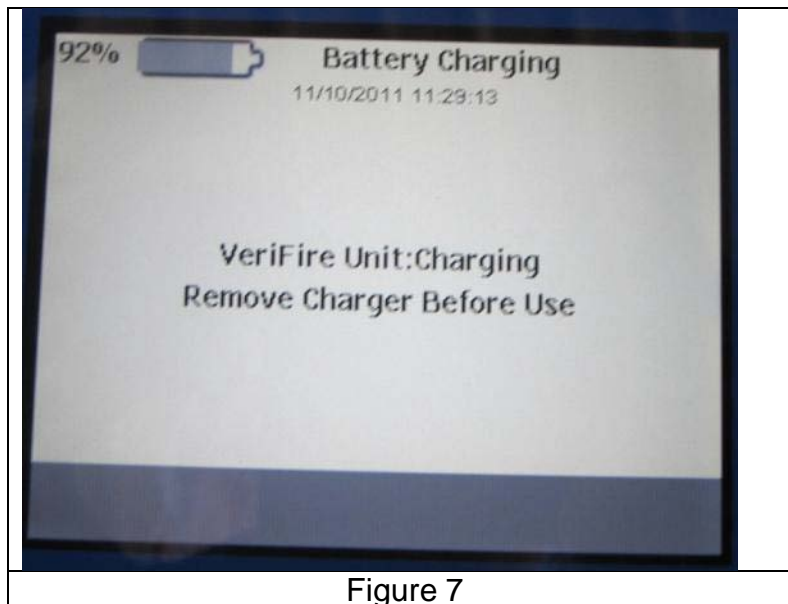

Figure 7
3. Plug the Battery Charger output plug into the VeriFire® Panel and tighten retainer ring. The VeriFire® Panel turns ON and boots up followed by the Battery Charging screen as shown in Figure 7. The Battery Charging screen indicates that the battery is charging and also shows a battery icon along with the % of battery charge.